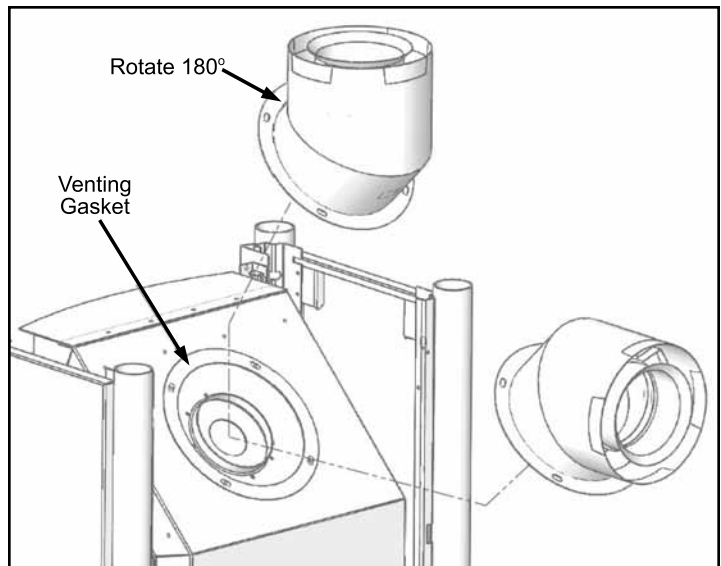

Figure 25: Converting Top Vented into Rear Vented.
- b. Remove the four (4) 1/4" screws that hold the flue collar elbow to the unit body.
- c. Carefully remove the elbow being sure not to damage the gasket that is glued to the flue collar elbow, it seals the flue to the firebox (see Figure 25).